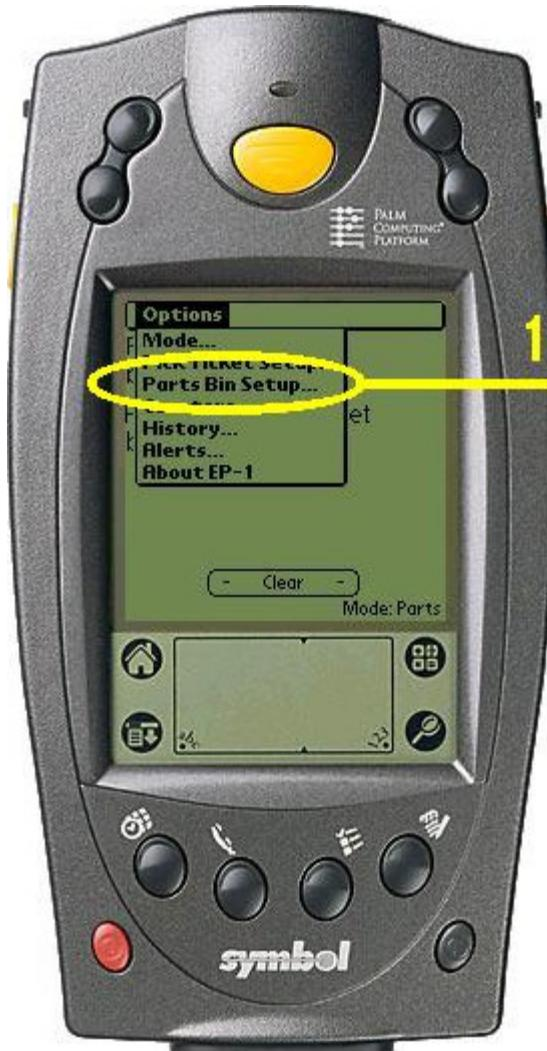

FIGURE 14. PARTS BIN SETUP
From the Options listed select the Parts Bin Setup (see figure 14, item 1 below).